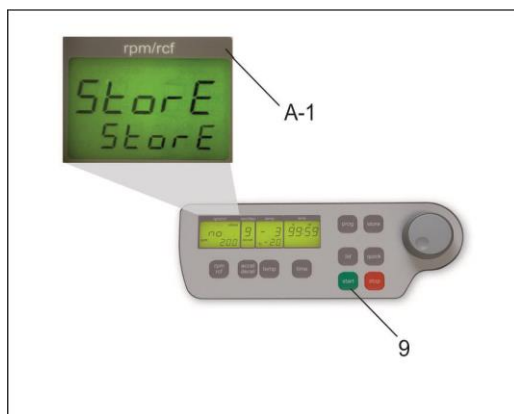

Figure 3
- All changed settings must be confirmed by the key, "start" (9). A confirmation screen will appear with the word; "store" in the display box, "rpm/rcf"(A-1) - Only then, the pre-selections are valid! (see Figure 3).